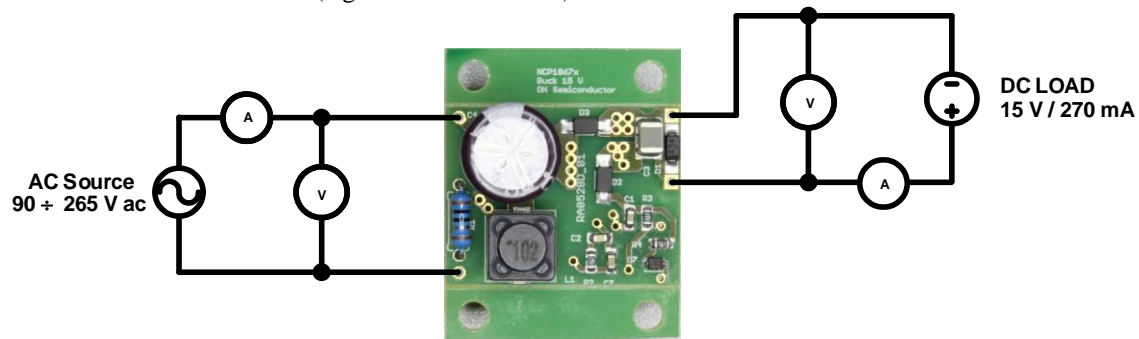

Figure 1: Test Setup for 15 V Buck Converter
1. Connect the test setup as shown in Figure 1.